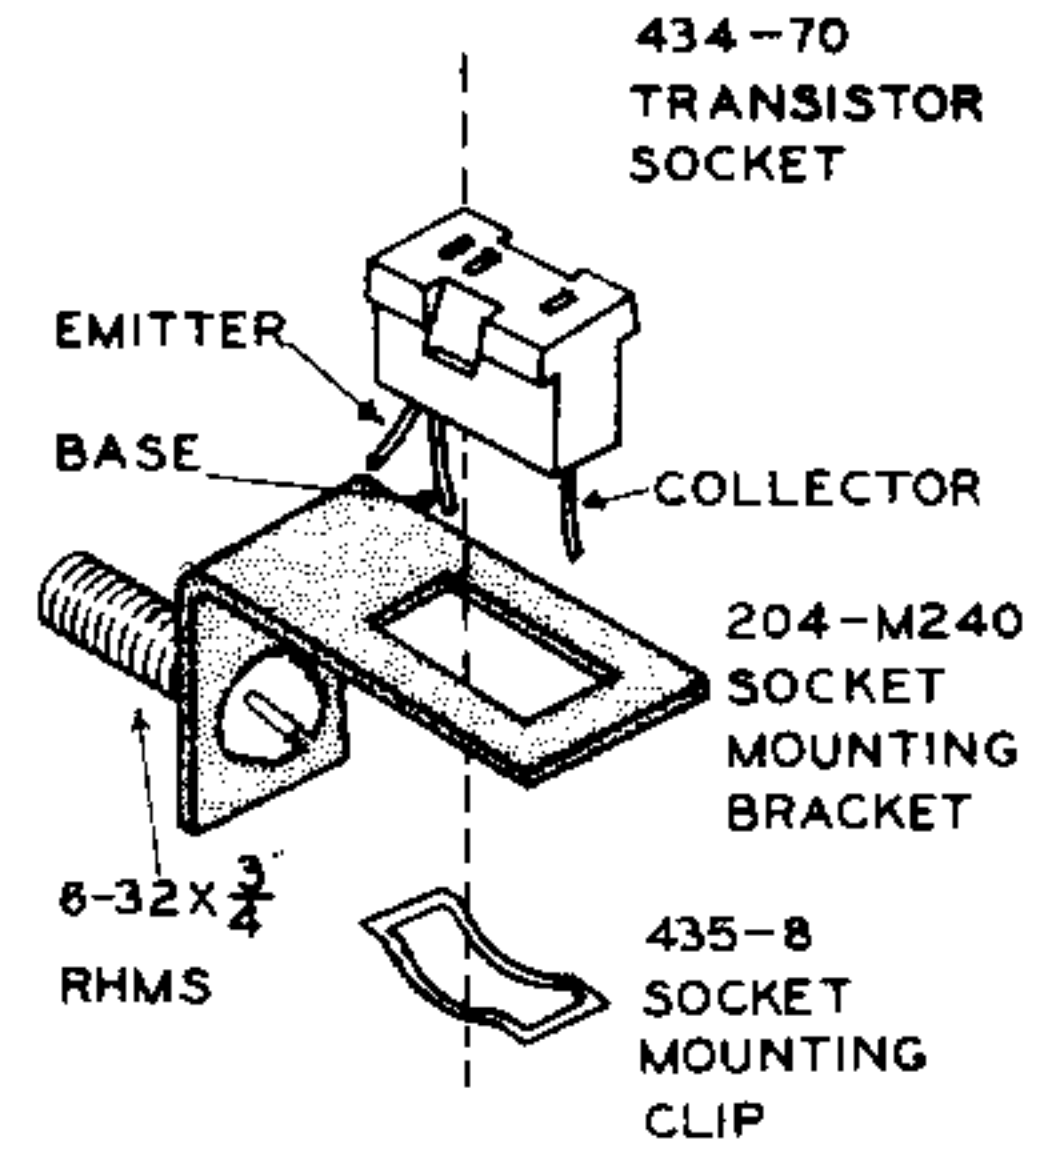

Figure 3
- () Refer to Figure 3 and insert a 6-32 x 3/4" RHMS (Round Head Machine Screw) first through the transistor L bracket, then insert the transistor socket in the bracket with the emitter and base connections next to the screw head. With the transistor socket in the L bracket, turn it upside down and force the mounting clip onto the socket with the points of narrow-nose pliers until the small spring tabs are retained in the depressions of the socket. Set this assembly aside until required.